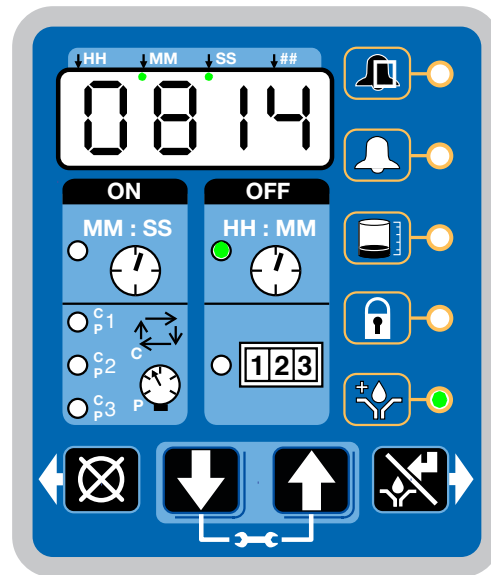

FIG. 56
- The LED next to the clock in the OFF field is illuminated (FIG. 56).
- The Prelube LED lights (FIG. 56).
- The display shows time remaining until lubrication cycle begins. The example shown in FIG. 56 shows 8 minutes and 14 seconds left until a lubrication cycle begins.